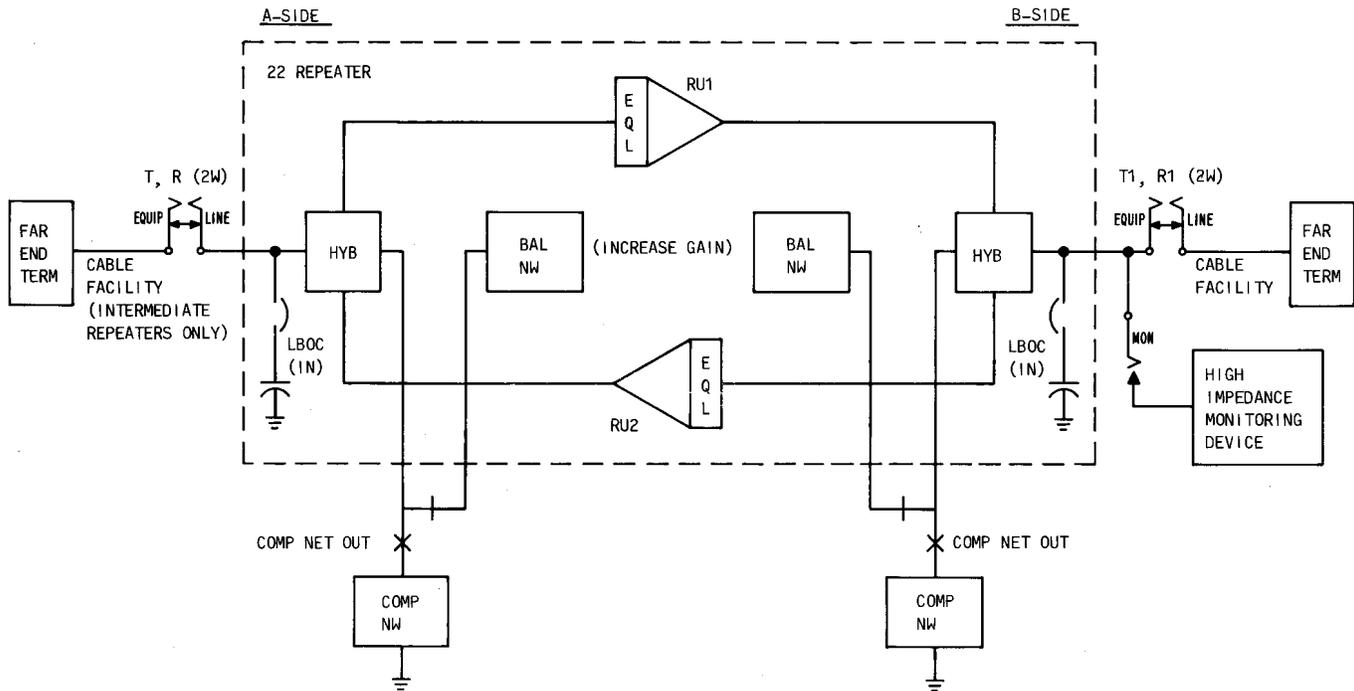

Fig. 8—In Circuit Configuration For Stability Margin Tests
9.02 The test setup is shown in Fig. 8.